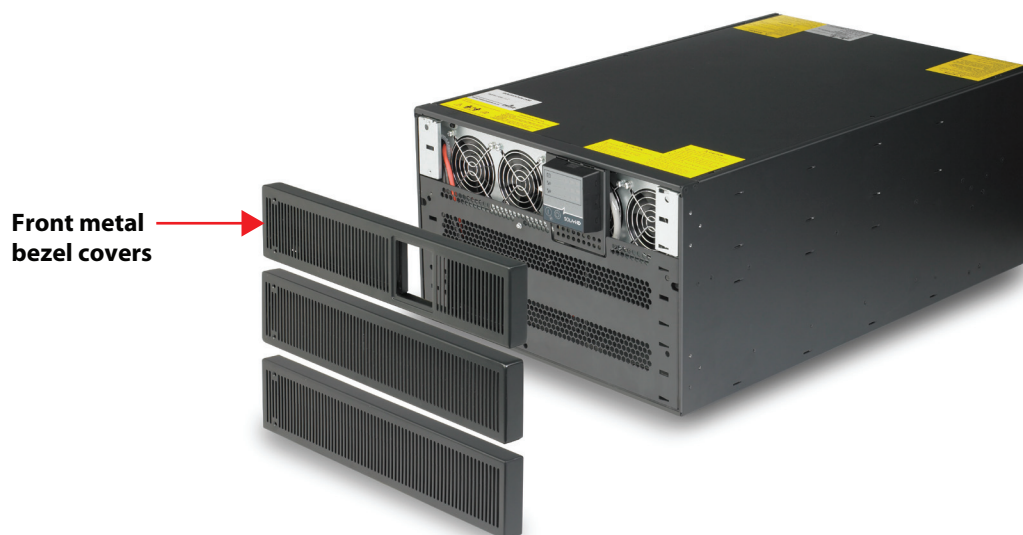

Figure 10: Remove the front metal bezel covers
- a. Remove the front metal bezel covers as shown in Figure 10.